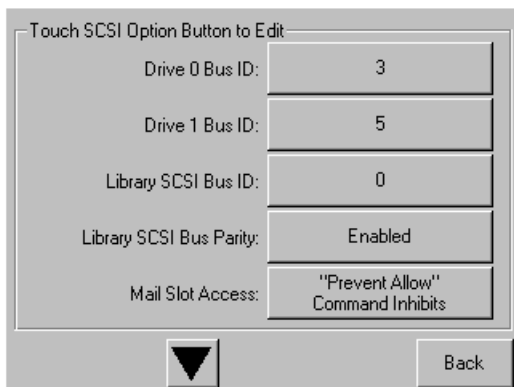

Figure 23 Drive 0 bus ID data field screen (two-drive model shown)
- d. Touch **OK** to confirm. A new SCSI ID now appears in the Drive 0 Bus ID data field (see Figure 23).